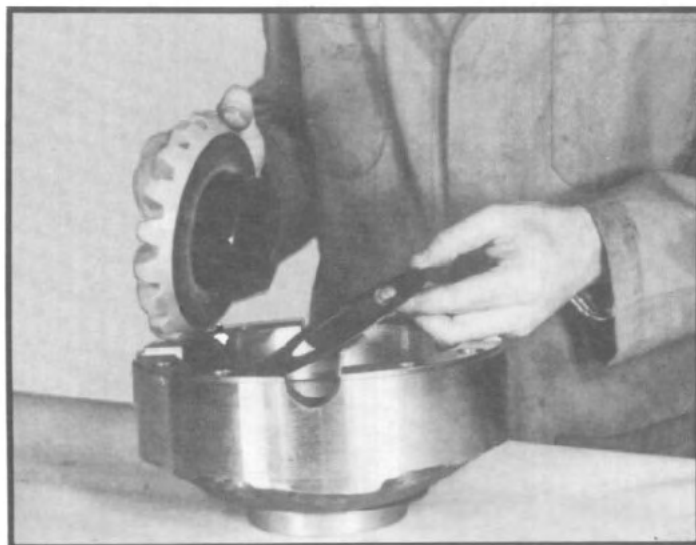
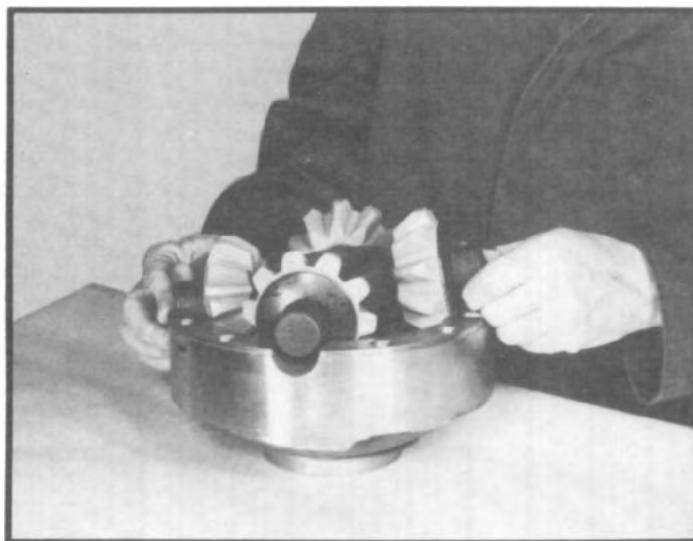

Fig. 127
Fig. 128
- 2.18 Assemble differential side gear and thrust washer to rear half of differential case. (See fig. 127.) Assemble differential spider and pinion gear assembly to rear of differential case (spider and pinion gear assembly consists of spider, four thrust washers and four pinion gears, See fig. 128.)